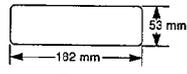

Fig. 1
In-dash installation can be done if the car's dashboard has an opening for this unit as shown in Fig. 1. The car's dashboard should have a thickness of 4.5 mm - 6 mm in order to make the installation of the unit.
- b) Pull out the unit while pushing the two lock levers using Dismounting Plate ⑦ as follows. (Fig 1, 2).